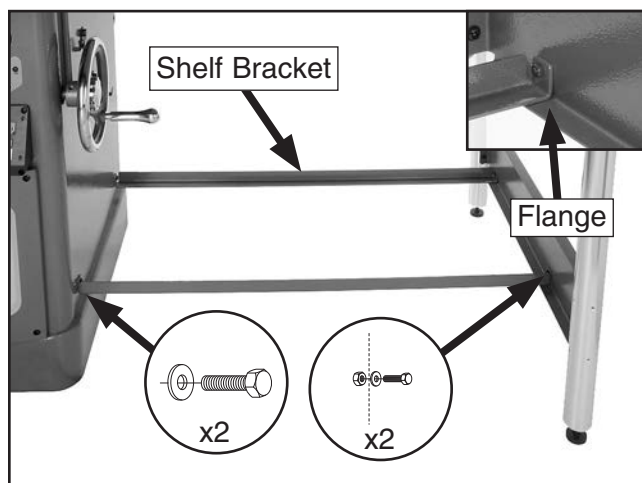

Figure 35. Shelf brackets installed.
10. Place the shelf brackets between the cabinet and support legs, and fasten with (4) M6-1 x 12 hex bolts, (4) 6mm flat washers and (2) M6-1 hex nuts, as shown in **Figure 35**.